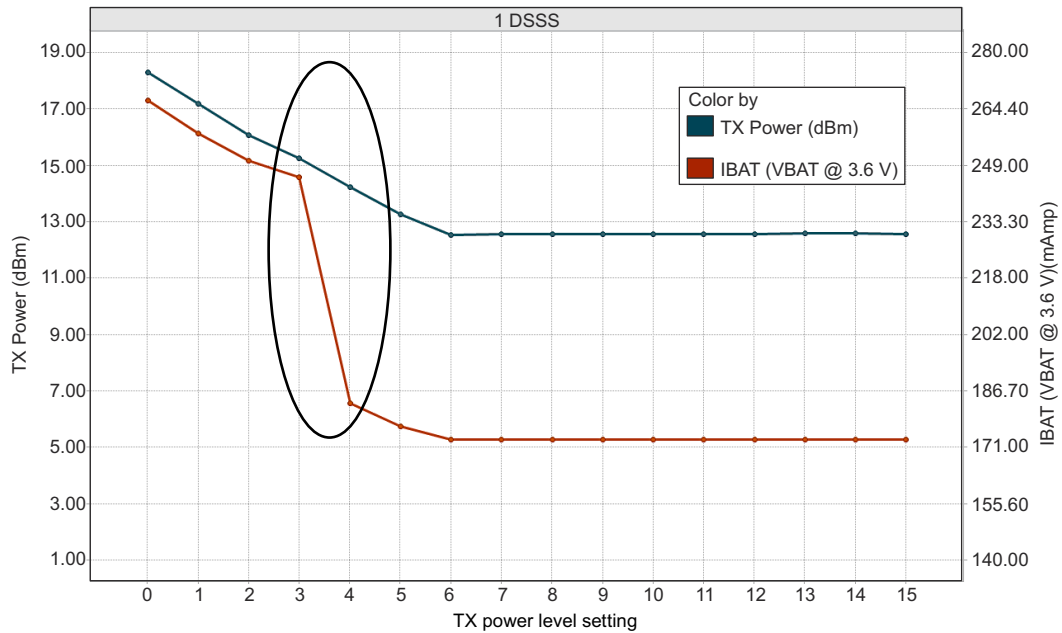
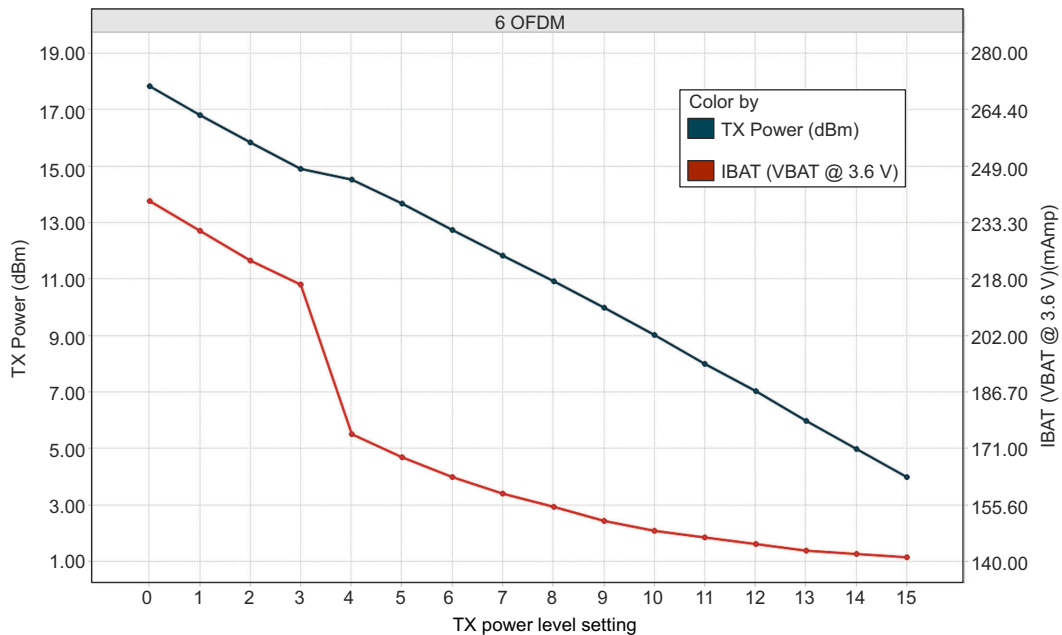
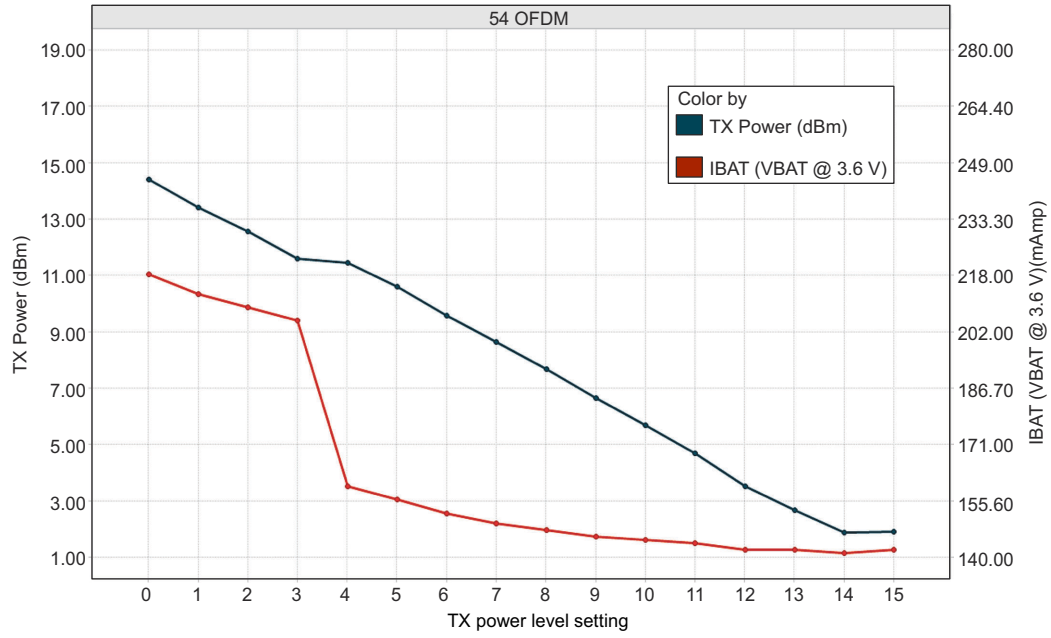

图 8-1. TX Power and IBAT vs TX Power Level Settings (1 DSSS)
图 8-2. TX Power and IBAT vs TX Power Level Settings (6 OFDM)
图 8-3. TX Power and IBAT vs TX Power Level Settings (54 OFDM)
- (1) TX power level = 0 implies maximum power (see Fig 8-1, Fig 8-2, and Fig 8-3). TX power level = 4 implies output power backed off approximately 4 dB.
- (2) LPDS current does not include the external serial Flash. The LPDS number of reported is with retention of 256KB of MCU SRAM. The CC3220x device can be configured to retain 0KB, 64KB, 128KB, 192KB, or 256KB of SRAM in LPDS. Each 64-KB block of MCU retained SRAM increases LPDS current by 4 μA .
- (3) DTIM = 1
- (4) The complete calibration can take up to 17 mJ of energy from the battery over a time of 24 ms. In default mode, calibration is performed sparingly, and typically occurs when re-enabling the NWP and when the temperature has changed by more than 20°C. There are two additional calibration modes that may be used to reduced or completely eliminate the calibration event. For further details, see CC3120, CC3220 SimpleLink™ Wi-Fi® and IoT Network Processor Programmer's Guide.
- (5) The CC3220x system is a constant power-source system. The active current numbers scale based on the V_{BAT} voltage supplied.
- (1) TX power level = 0 implies maximum power (see 图 8-1, 图 8-2, and 图 8-3). TX power level = 4 implies output power backed off approximately 4 dB.
- (2) LPDS current does not include the external serial flash. The LPDS number of reported is with retention of 256KB of MCU SRAM. The CC3220x device can be configured to retain 0KB, 64KB, 128KB, 192KB, or 256KB of SRAM in LPDS. Each 64-KB block of MCU retained SRAM increases LPDS current by 4 µA.
- (4) The complete calibration can take up to 17 mJ of energy from the battery over a period of 24 ms. Calibration is performed sparingly, typically when coming out of HIBERNATE and only if temperature has changed by more than 20°C. The calibration event can be controlled by a configuration file in the serial Flash..
图 8-1, 图 8-2, and 图 8-3 show TX Power and IBAT versus TX power level settings for the CC3220R and CC3220S devices at modulations of 1 DSSS, 6 OFDM, and 54 OFDM, respectively. For the CC3220SF device, the IBAT current has an increase of approximately 10 mA to 15 mA depending on the transmitted rate. The TX power level will remain the same.
In 图 8-1, the area enclosed in the circle represents a significant reduction in current during transition from TX power level 3 to level 4. In the case of lower range requirements (14-dBm output power), TI recommends using TX power level 4 to reduce the current.